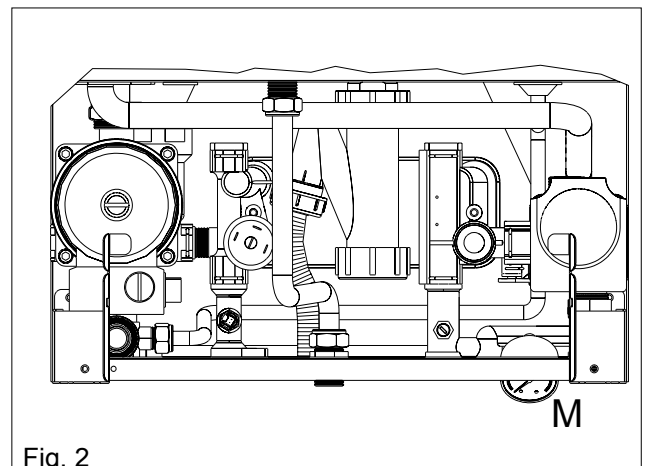

Fig. 2
- Use the pressure gauge **M** (fig. 2) to check that the system pressure reaches at least 1 bar and that indicator **11** (see 2.7 “Control Panel”) lights up.